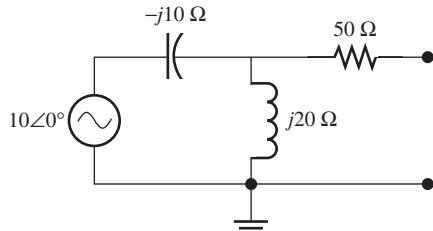

FIGURE P6.47 Circuit for Problem 6.47.
- 6.47** (A) Find the Norton equivalent circuits for the circuit shown in Figure P6.47.